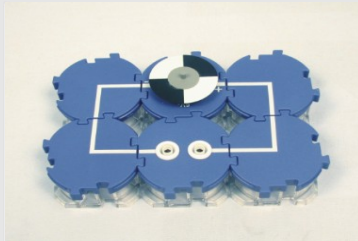

Figure 4
**4.** Build the circuit for the motor according to Figure 4.